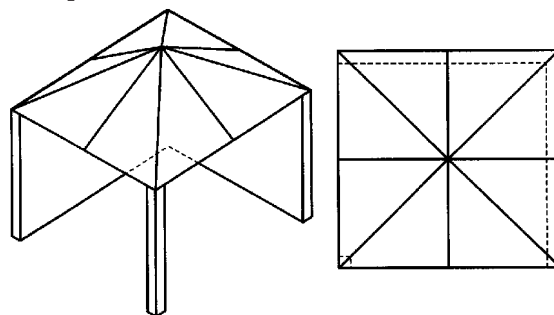

Figure 2 - Partial Enclosure with overhead cover and no more than two walls
► Within a partial enclosure that includes an overhead cover and no more than two walls. See Figure 2 & 3.